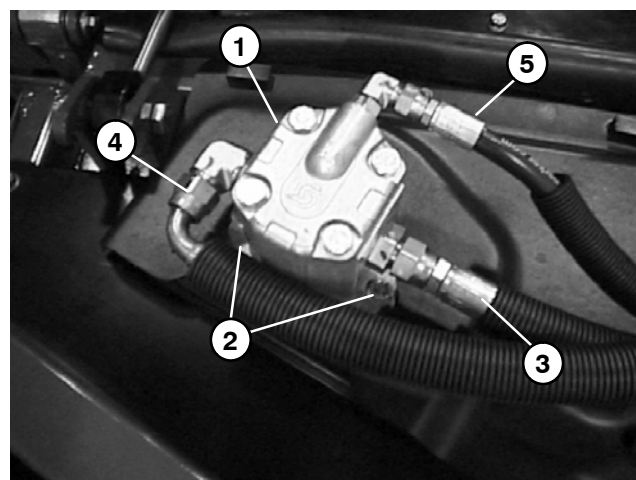

Figure 66
4. Remove two flange head screws that secure hydraulic motor to motor mount (Fig. 66).
4. Secure motor to cutting deck with two flange head screws (Fig. 66).